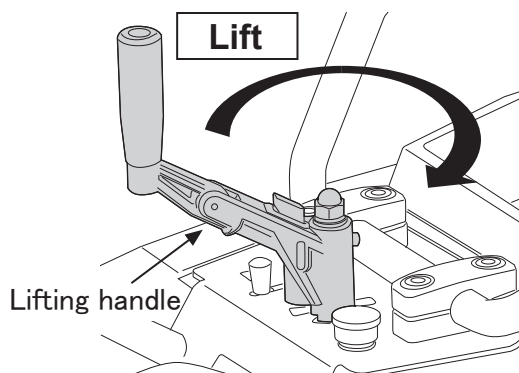

Fig.15
2. Turn the lifting handle clockwise until the blade is lifted to the maximum height. (Fig.15)